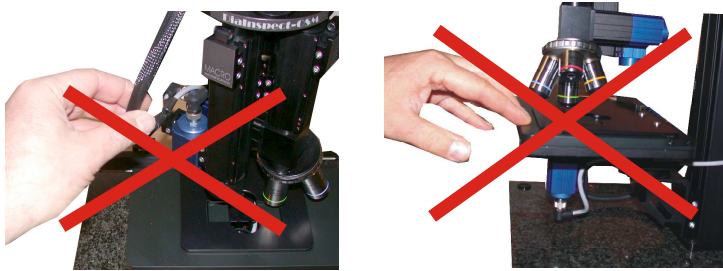

Fig 4: Forbidden
- Do not use cabel as grip to shift the optics (Fig 4).